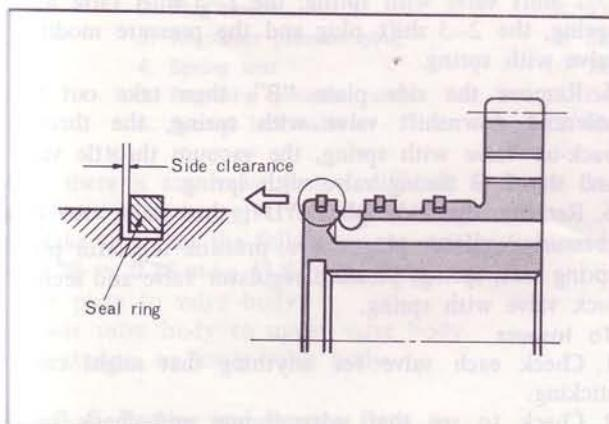

Fig. 7A-38 Clearance of oil seal ring
3. Check the side clearance between the sealing and groove as shown in Fig. 7A-38. The standard clearance is **0.04 ~ 0.16 mm (0.002 ~ 0.006 in)**. When disassembling the seal ring, squeeze it up so that its joint will rise above the groove, and disconnect the joint.